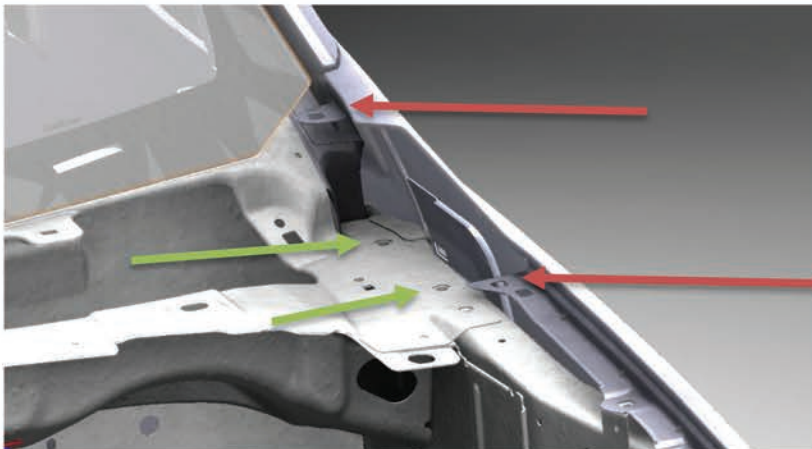

Fig 6.
- k. Remove the two bolts that secures the fender to the hood hinge bracket near the windshield indicated in **Fig 6** by the red arrows on the right.
- l. Remove and save the two bolts from **Fig 6** indicated by the green arrows on the left.
- b. Trim off the areas as shown in Fig 6 & 7 on both sides of the cowl.